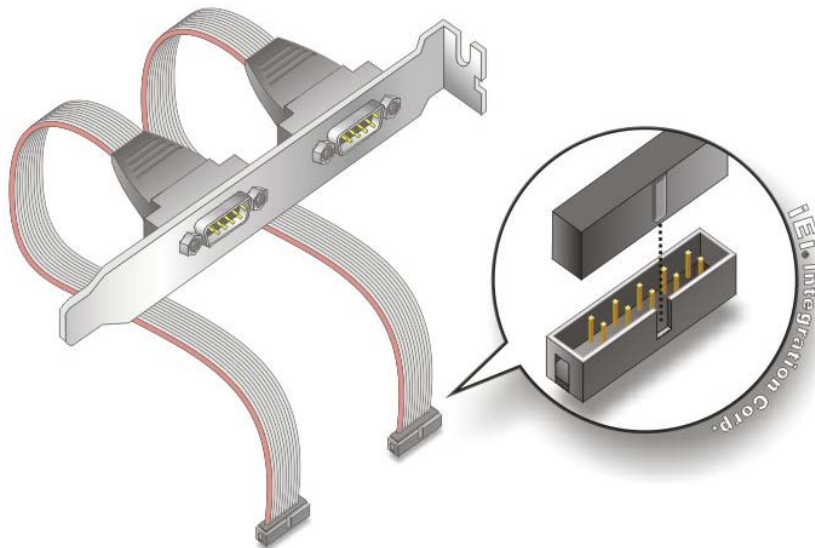

Figure 4-10: Dual RS-232 Cable Installation
**Step 2: Insert the cable connectors.** Insert one connector into each serial port box headers (**Figure 4-10**). A key on the front of the cable connectors ensures the connector can only be installed in one direction.